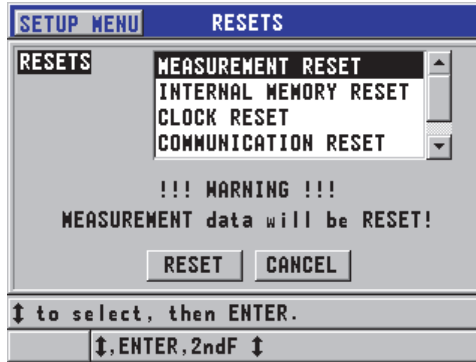

Figure 12-1 Activating a reset function
2. In the **RESETS** screen (see Figure 12-1 on page 209):